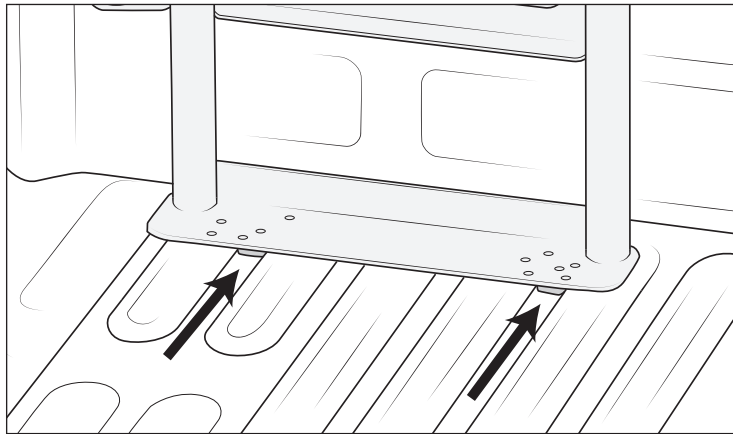

Figure 4
3. Place the two provided Spacers under the Tire Carrier as shown NOTE: For Ram Box beds, the notched end of the spacer should be inserted toward the bulkhead (fig. 4). Adjust the Tire Carrier position side to side to align with spacer holes. Check that the Bulkhead Bracket is aligned with the Tire Carrier and adjust as necessary. NOTE: The Spacers should be pushed all the way forward, this will locate the Tire Carrier position front to back.